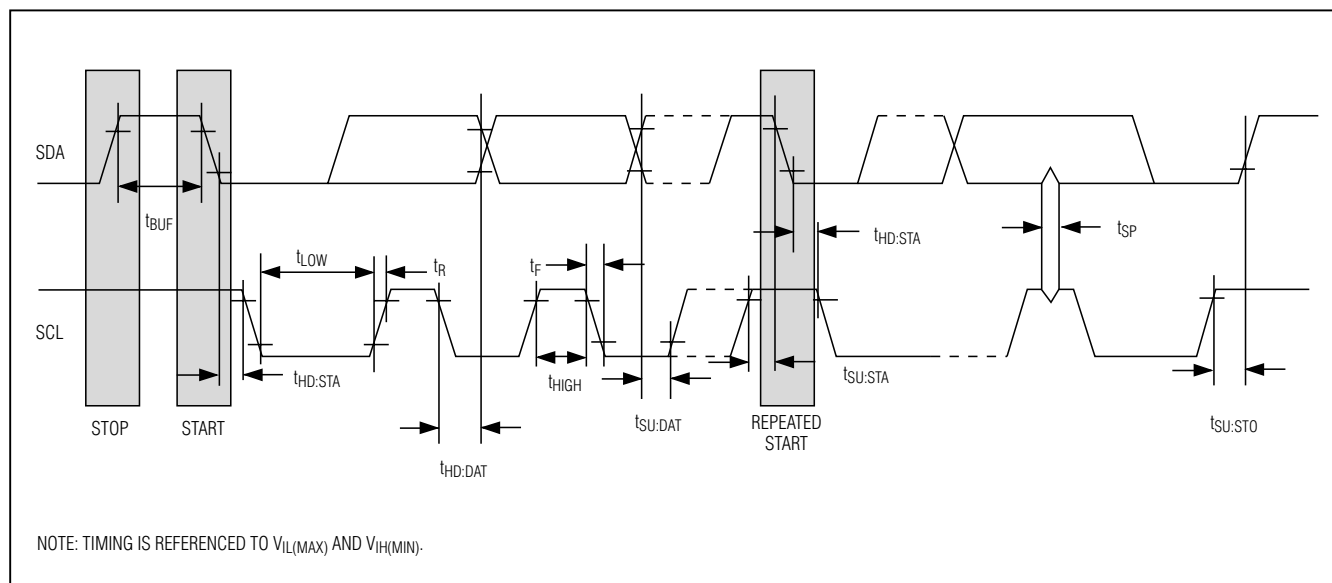

Figure 10. I2C Timing Diagram
**Bit Write:** Transitions of SDA must occur during the low state of SCL. The data on SDA must remain valid and unchanged during the entire high pulse of SCL plus the setup and hold time requirements (see Figure 10). Data is shifted into the device during the rising edge of the SCL.
**Bit Read:** At the end of a write operation, the master must release the SDA bus line for the proper amount of setup time (see Figure 10) before the next rising edge of SCL during a bit read. The device shifts out each bit of data on SDA at the falling edge of the previous SCL pulse and the data bit is valid at the rising edge of the current SCL pulse. Remember that the master generates all SCL clock pulses including when it is reading bits from the slave.
**Acknowledgement (ACK and NACK):** An acknowledgement (ACK) or not acknowledge (NACK) is always the 9th bit transmitted during a byte transfer. The device receiving data (the master during a read or the slave during a write operation) performs an ACK by transmitting a zero during the 9th bit. A device performs a NACK by transmitting a one during the 9th bit. Timing (Figure 10) for the ACK and NACK is identical to all other bit writes. An ACK is the acknowledgment that the device is properly receiving data. A NACK is used to terminate a read sequence or as an indication that the device is not receiving data.